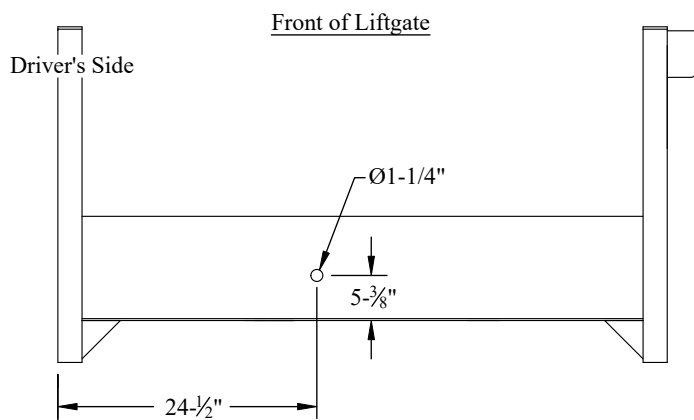

Figure 9: Spare tire access.
1. **Mark** the spare tire access location on the liftgate (Figure 9).